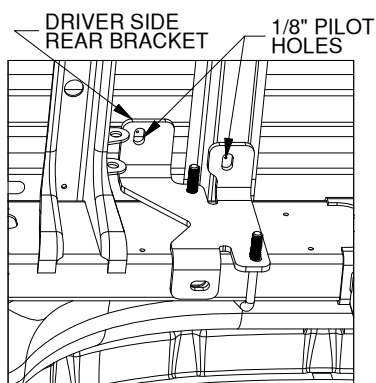
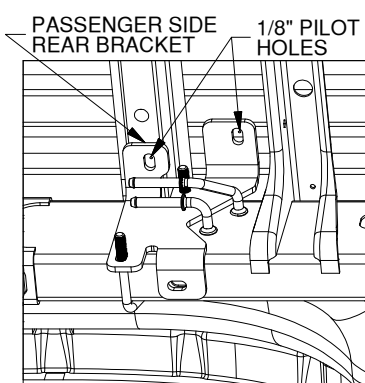

FIGURE A3: View looking up at the inside of driver side frame.
FIGURE A4: View looking up at the inside of passenger side frame.
- 3. Check hole locations:** Locate the driver side rear frame bracket and a U-bolt. Position and hold the bracket flat against the inside of the frame where it will be installed, see figure A3. Pass the U-bolt from the outside of the frame through the corresponding holes in the bracket. Check that the 1/8" pilot holes are centered within the slots in the frame brackets. If the 1/8" drilled holes are not centered within the slots, re-drill the 1/8" holes until the brackets and the drilled holes are aligned. Repeat the process for the passenger side using the passenger side rear bracket and a U-bolt, see figures A4.